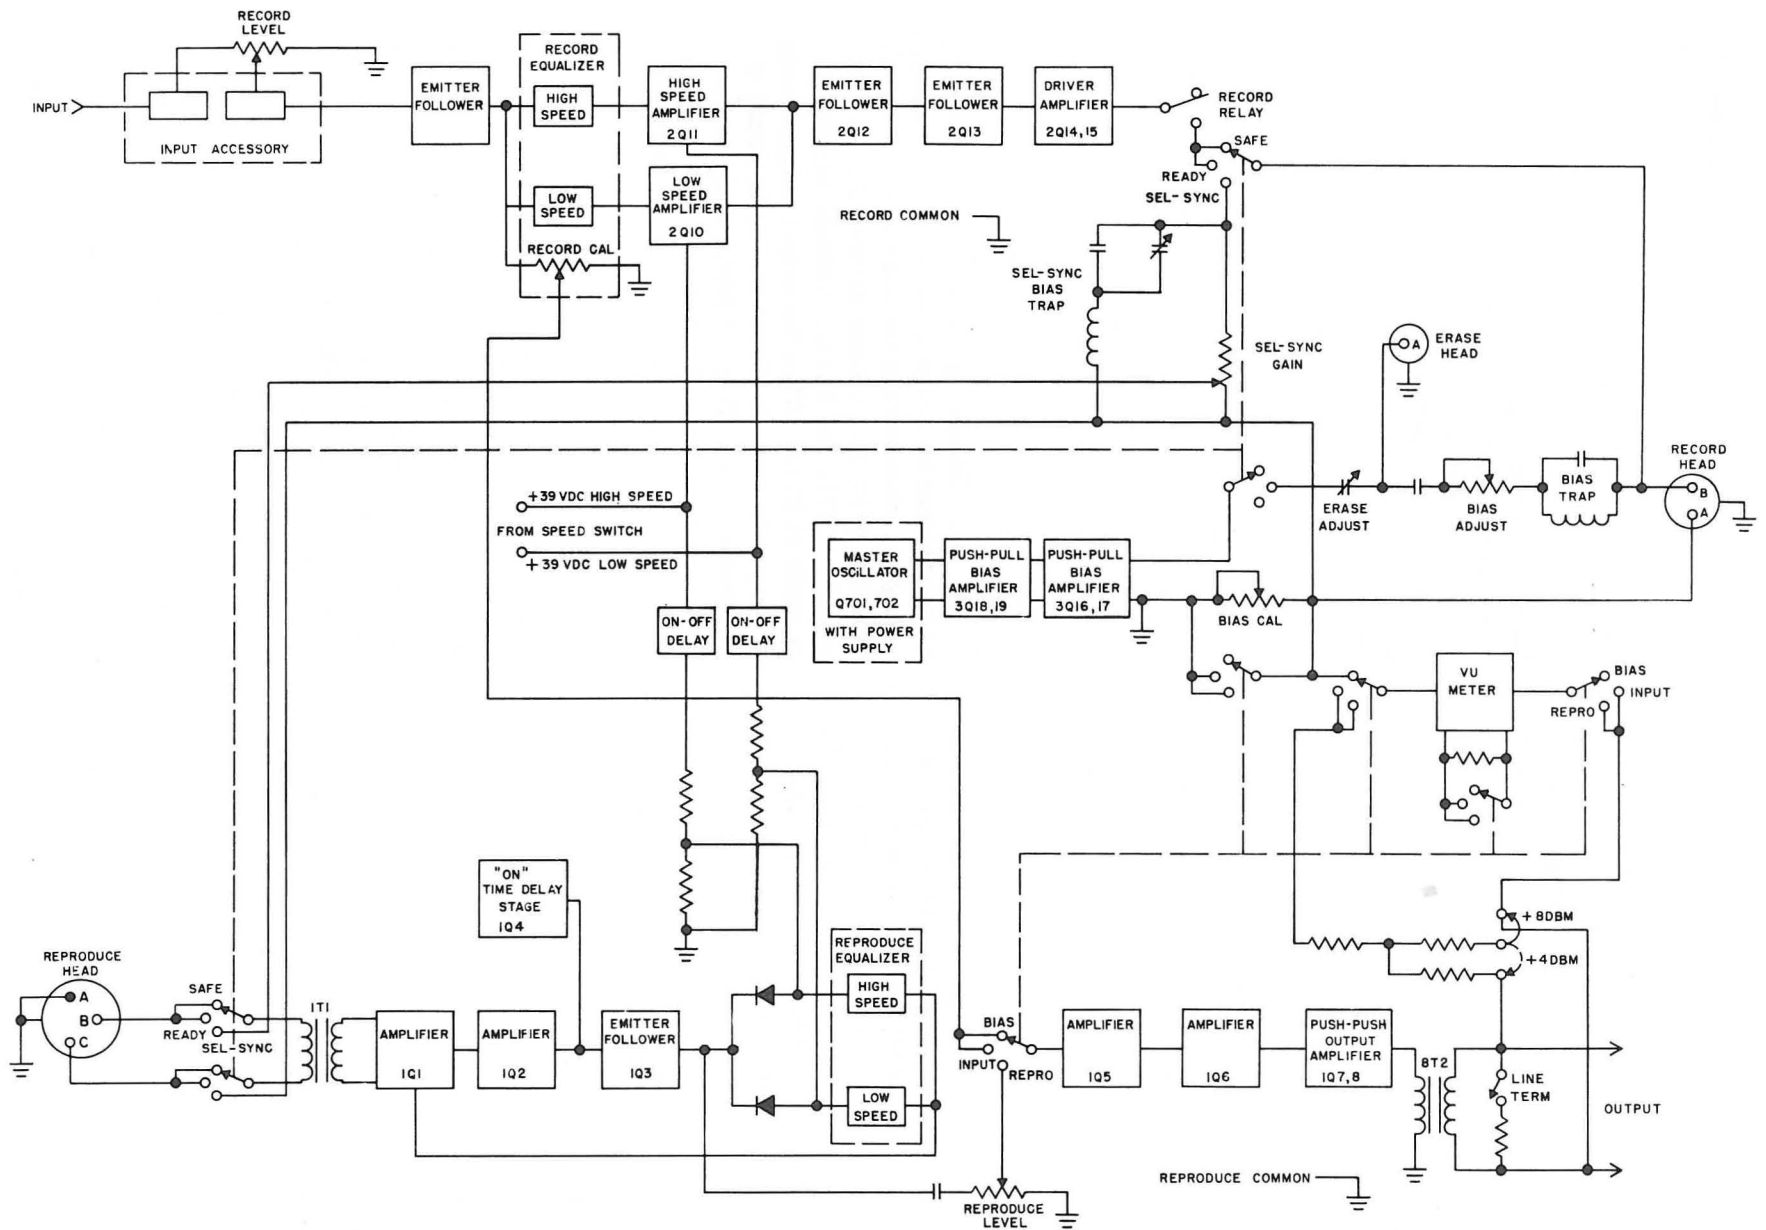

Fig. 5-2. Block Diagram
5.2 ELECTRONIC CIRCUITS (See Figure 5-2)